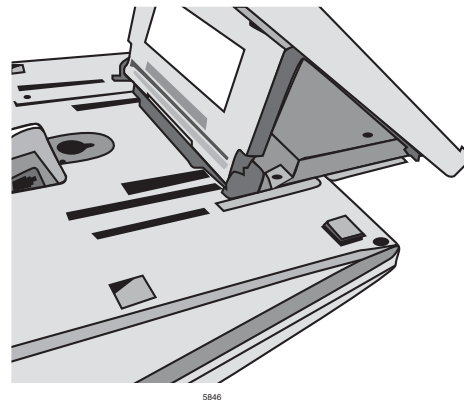

Figure 11-17 Slide Tilt Stand into Address Tray Slot
4. Slide the Tilt Stand into the former Address Tray holder. (The Stand should catch under the front tray holder notches.) Push Stand in until it snaps into place (see Figures 11-17 and 11-18).